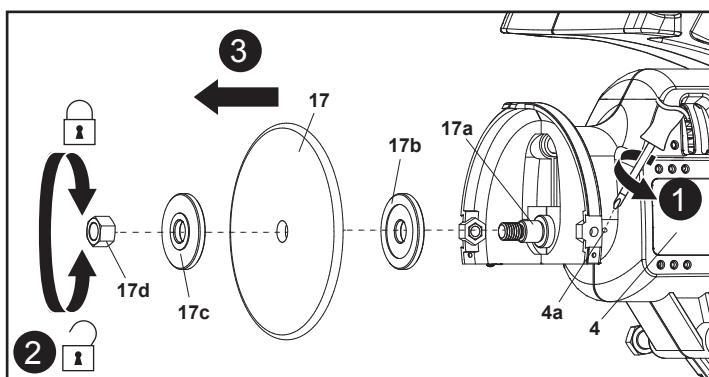

Fig. 12
3. Block the spindle (17a) with a suitable screwdriver (not supplied) via either of the holes (4a) of the motor housing (4) (Fig. 12, step 1). Make sure it slides into the corresponding hole in the spindle (17a) by turning the grinding disc (17) slightly.
4. Loosen the clamping nut (17d) anticlockwise with a suitable wrench (size: 13mm) (not supplied) and remove it together with the outer flange (17c) and grinding disc (17) (Fig. 12, steps 2, 3).